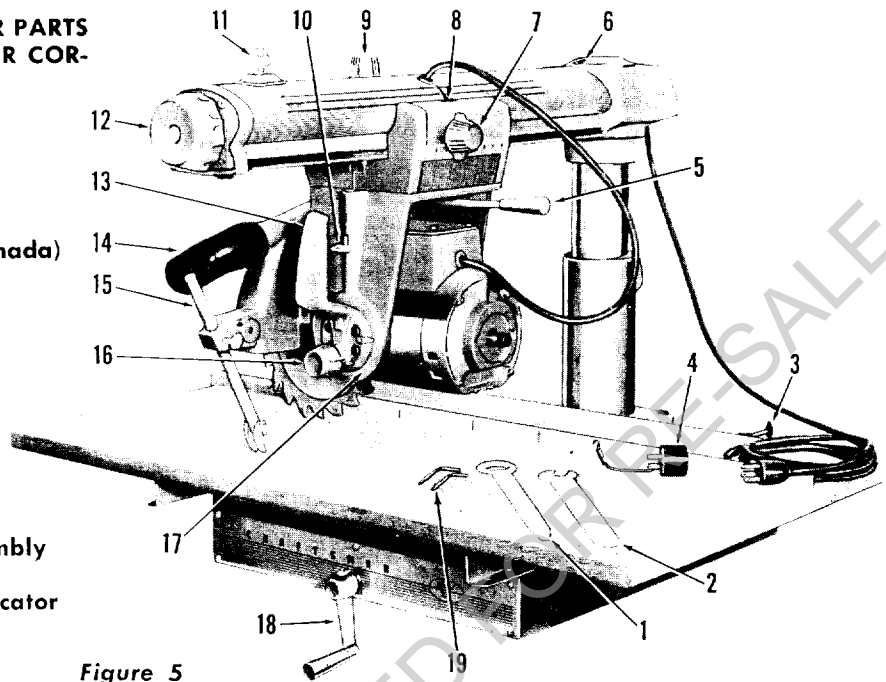
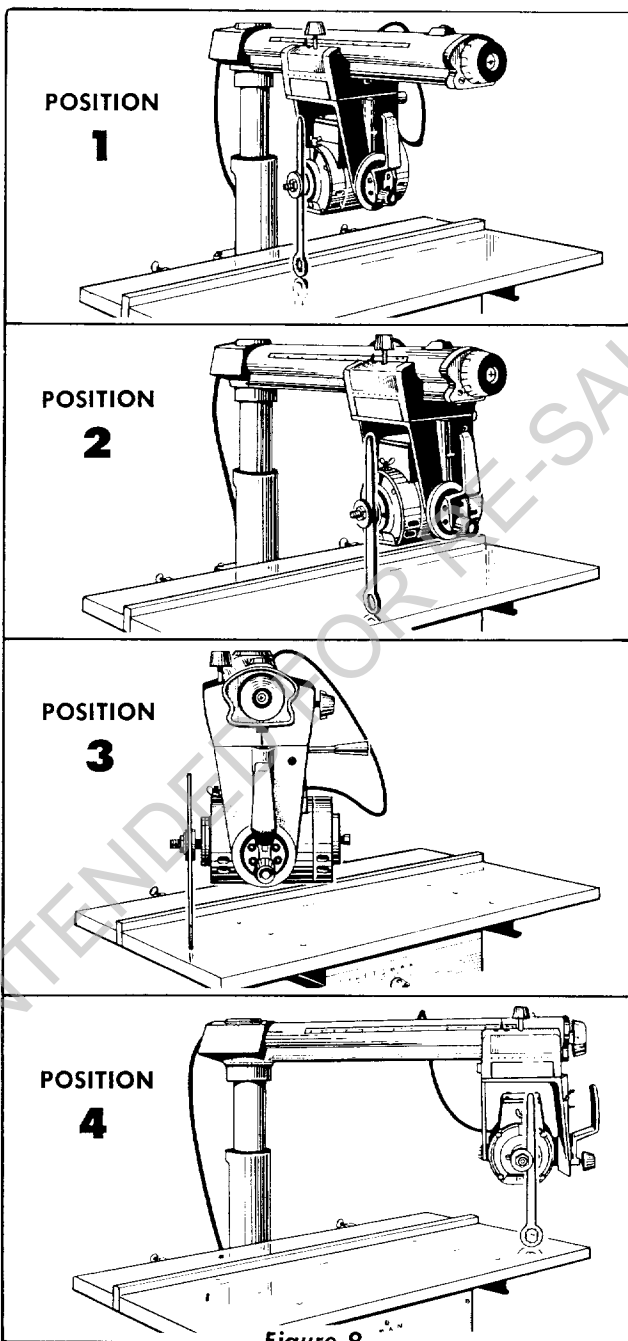

Figure 5
Figure 9
3. Insert arbor wrench between collars on motor shaft. See Figure 9. Tighten shaft nut by hand.
4. Loosen carriage lock knob (Item 7, figure 5) and turn elevation crank until end of arbor wrench *just touches* the table top thus permitting the wrench to be swung back and forth. See Position 1, Figure 9.
Do not turn the elevation crank throughout the remainder of this procedure as the radial arm must remain at the same height above the table while checking at Positions 1, 2, 3 and 4 of Figure 9.
6. Turn arm latch handle (Item 12, figure 5) counterclockwise and pull out. Move arm to Position 3 of Figure 9. Repeat procedure of step 5.
7. Move radial arm to Position 4 of Figure 9 and repeat above procedure.
3. When channels are properly adjusted the arbor wrench will just contact the table top when swung back and forth at Positions 1, 2, 3, and 4 of Figure 9. Tighten attaching screws (Item 1).
- a. If saw tooth "A" (Figure 15) moves away from the square when moving the blade from the rear to the front of the table, loosen the table bolts on the left side of the table and tighten the left table clamp (Item 3, figure 5).